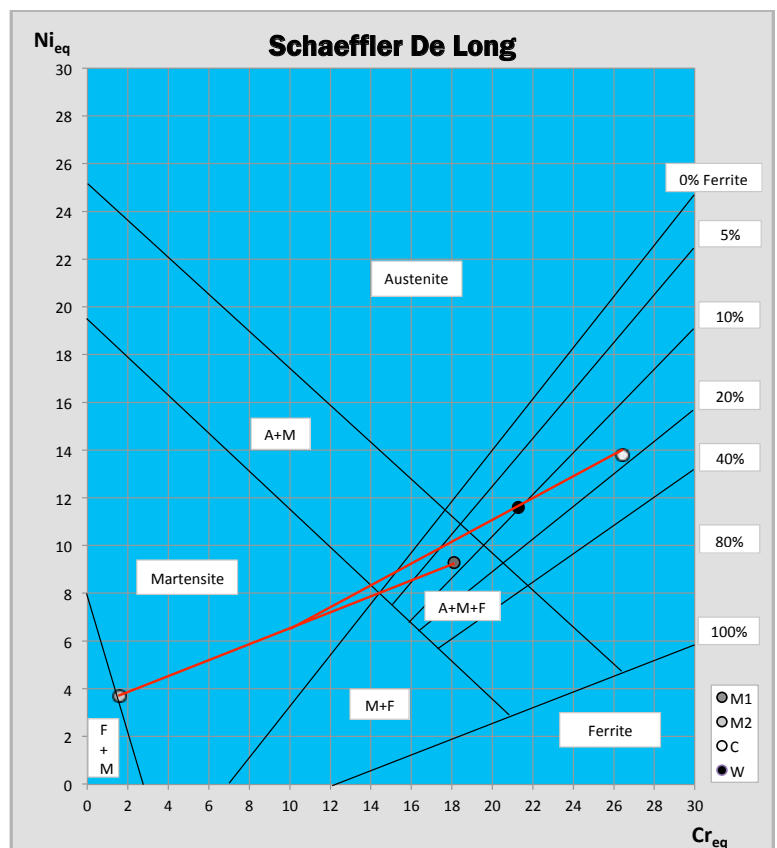

Figure 8.
One way of predicting the structure formed in the weld metal is to use a Schaeffler/DeLong diagram in which the ferrite stabilizers are plotted on the horizontal Creq axis and the austenite stabilizers on the vertical Nieq axis. It is possible to see whether the structure is austenitic, martensitic or ferritic or any mixture thereof for given Cr- and Ni equivalents. This is shown in figure 8. The ferrite content is presented as volume percent and calculated in table 7.
The Schaeffler De Long diagram in figure 8 is based on table 12, where the dissimilar-metal weld is between stainless steel type 304L (M1 in diagram) and carbon steel (M2). The consumable used (C) is a Cromarod 309MoL, which is normal for this application. Dilutions are set to 15% from each parent metal and rest weld metal. The resulting weld metal (W in diagram) will have a calculated ferrite volume of around 10%. No risk for hot cracking or martensite formation is present.